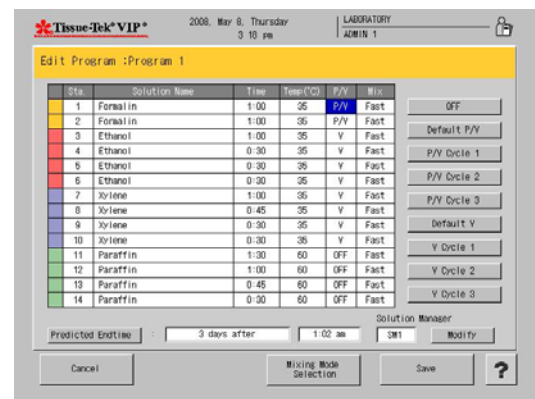

Figure 3-DDD
1. Touch the P/V field for the step to be modified (Figure 3-DDD).